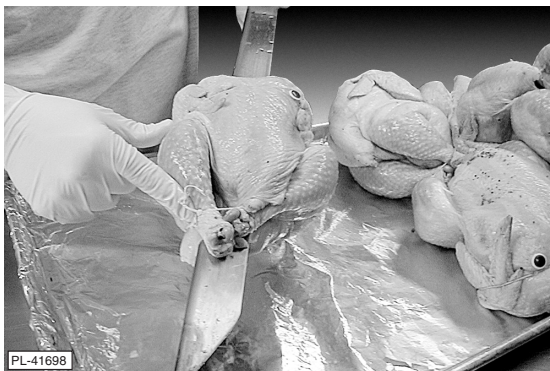

Fig. 20
- Ensure that the legs and breasts are on the same flat side of the angle V-spit (Fig. 20).